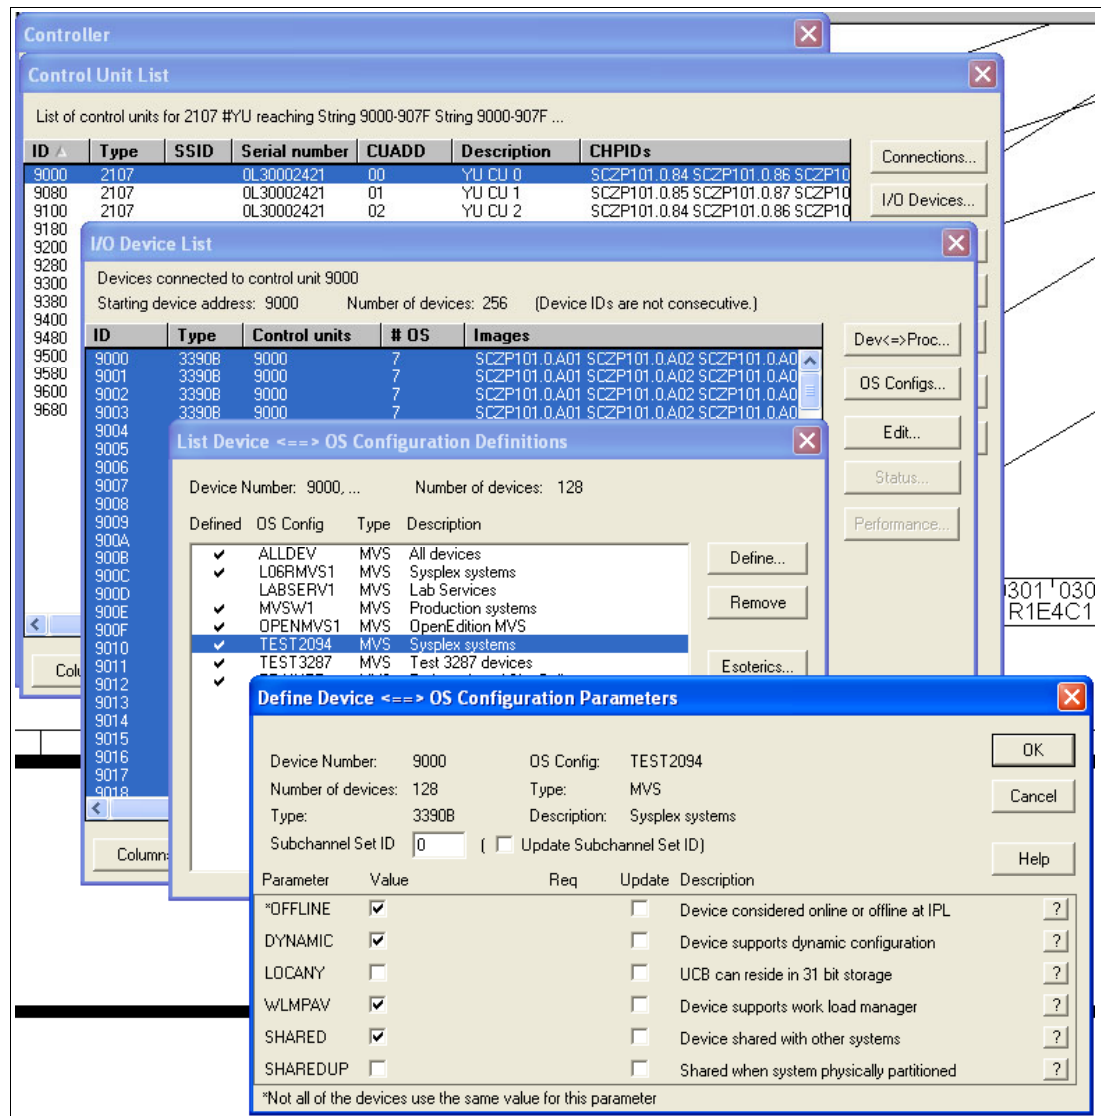

Figure 6-24 HCM OS Configuration Parameters
31. Highlight TEST2094, and then click **Define**. Refer to Figure 6-24.